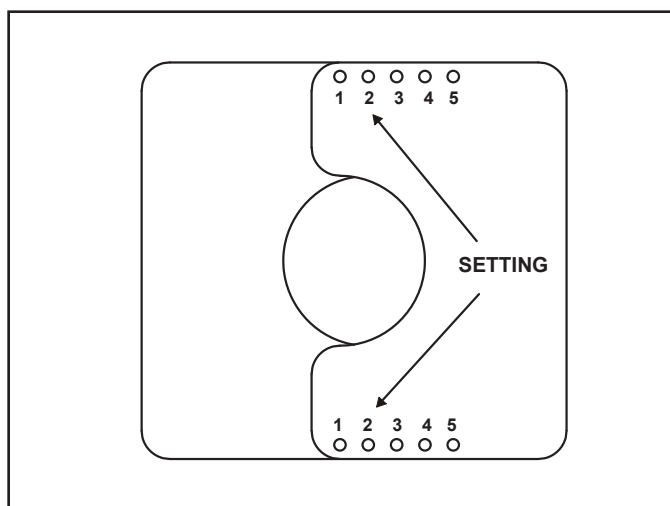

Figure 4.11 Set the Exhaust Restrictor
3. The setting for MEZZO36, MEZZO48 is 2-2. Align the holes marked "2" on the numbered exhaust restrictor piece with the hole on the other exhaust restrictor piece. See Figure 4.11. Align the exhaust restrictor pieces with the pilot holes in the inner firebox chamber. Use two 1/2 inch self-piercing screws to secure vent restrictor to firebox heat shield.
2. The setting for MEZZO36ST and MEZZO48ST is a 2.5 inch setting, or 2-2. Align the holes marked "2" on the numbered exhaust restrictor piece with the hole on the other exhaust restrictor piece. See Figure 4.11. Center the exhaust restrictor on the vent and secure in place with two 1/2 inch self-piercing screws.